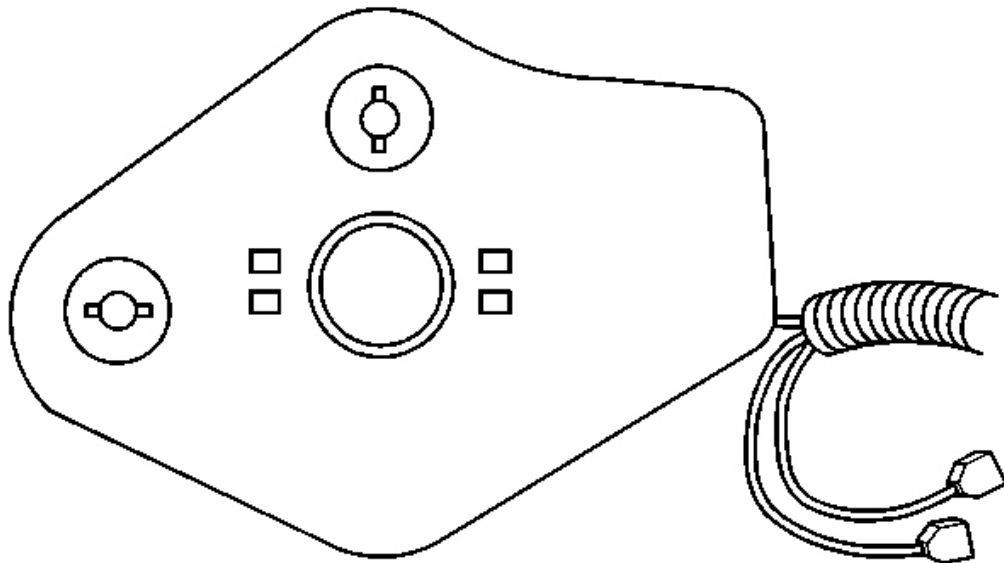

Fig. 24: View of Jackscrews in Mirror Face
2. Rotate both jackscrews to position the ball flanges to be in-line with the attaching hub. They will then be correctly positioned to the mirror glass case. (This is shown in the graphic below- Fig. 24).